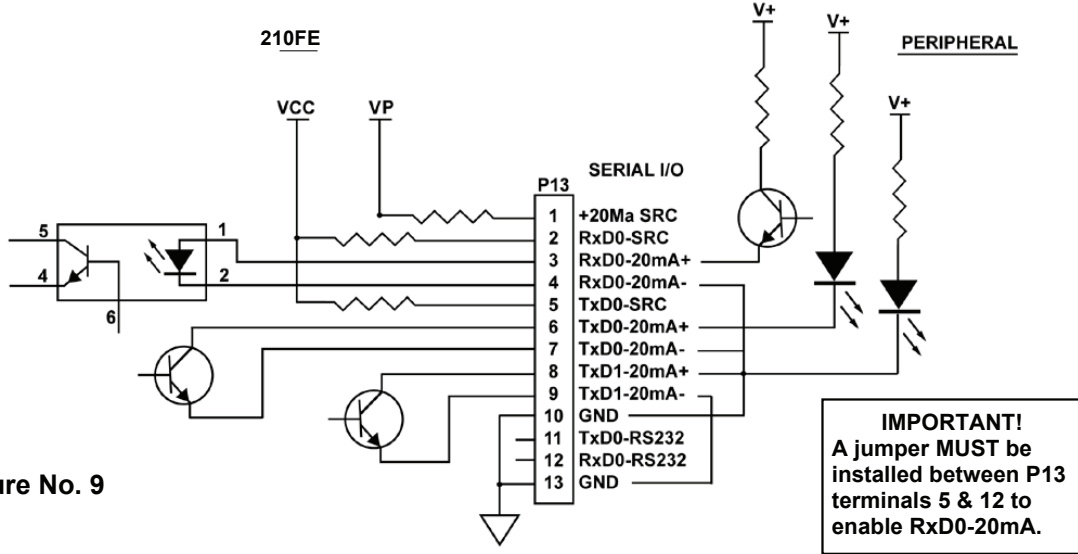

Figure No. 9
7. Referring to the table below (or on the circuit board) for terminal connections, connect each of the wires to terminal block P1. Refer to Figure No. 9 for terminal block location.
6. Referring to the table on the previous page (or on the circuit board) for terminal connections, connect each of the wires to terminal block P7. Refer to Figure No. 9 for terminal block location.
3. Loosen the gland connector nut from the 8200-B163-0A cable/gland assembly (see Figure No. 9) and slip off over the 5-pin cable connector and ground wire.